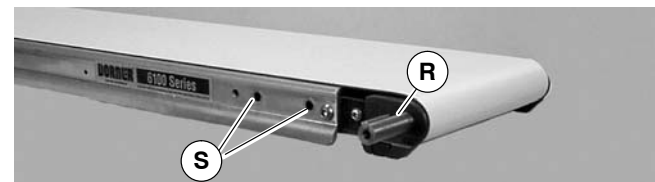

Figure 12
- Locate drive output shaft (R of Figure 12) and remove two (2) screws (S).